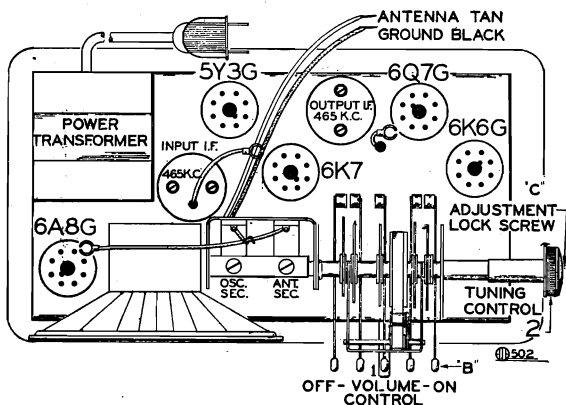

FIG. 1—TOP VIEW
- (a) With external oscillator set at 1720 kilocycles, adjust oscillator trimmer to resonance. This adjustment is on the top of rear section of variable gang condenser. (See Fig. 1).